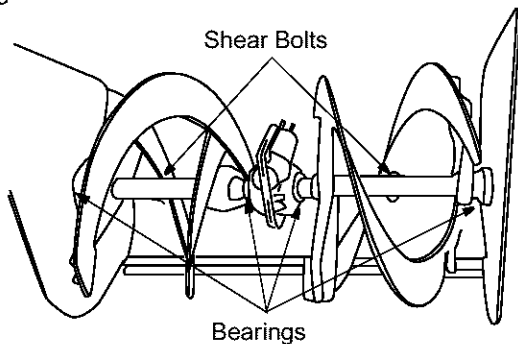

Figure 9
- **Auger Shaft:** At least once a season, remove shear bolts on auger shaft. Oil or spray lubricant inside shaft and lubricate the auger bearings. See Figure 9.
The augers are secured to the spiral shaft with two shear bolts and hex lock nuts. See Figure 9. If you hit a hard foreign object or ice jam, the snow thrower is designed so that the bolts may shear.